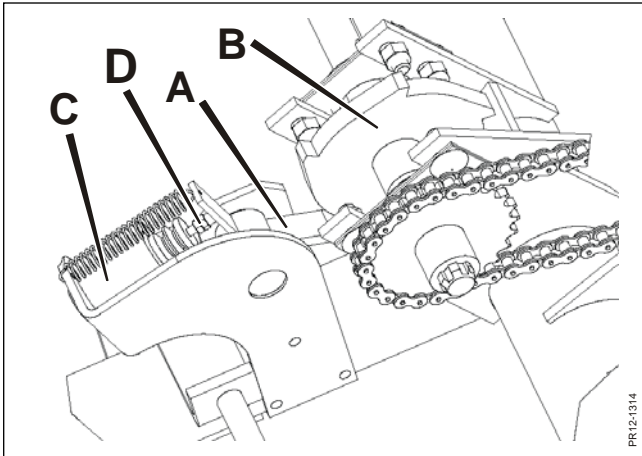

Fig. 5-12
**Fig. 5-12** Machines with metal detector have an integrated stop system in the transmission for the feed intake system. The system consists of a pawl **A** and a ratchet wheel **B** which are activated by a coil **C**. The system is activated when metal is registered in the feed intake section and the coil gets a signal from the electronics which brings the pawl **A** in mesh with the ratchet wheel **B** and the feed intake section is blocked.